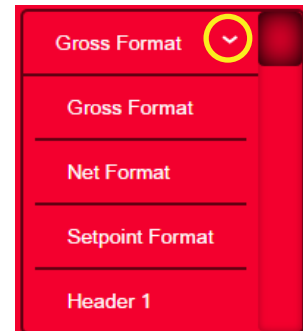

Figure 7-2. Select Format
1. Press the selection field arrow (circled in Figure 7-2) to select the print format to be configured. The current settings for that format will appear to the right.